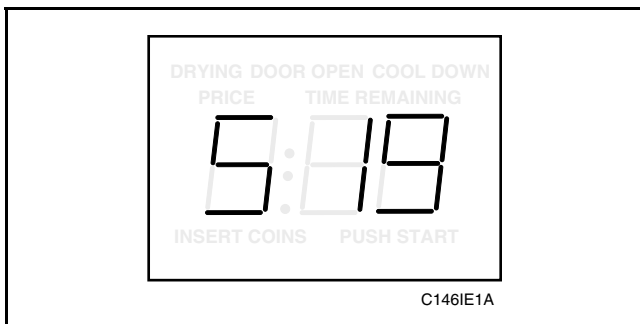

Figure 37
- While pressing and holding the HIGH TEMP pad with one hand, press the MED TEMP pad with the other hand. Programmable option number 1, (Audio Signal “SIg”), will appear in the VFD, *Figure 37*.